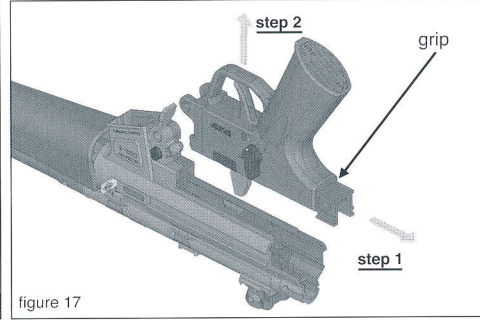

figure 17
7. Remove the grip in the succession 1 and 2 (first right then upwards) as shown in (figure 17)